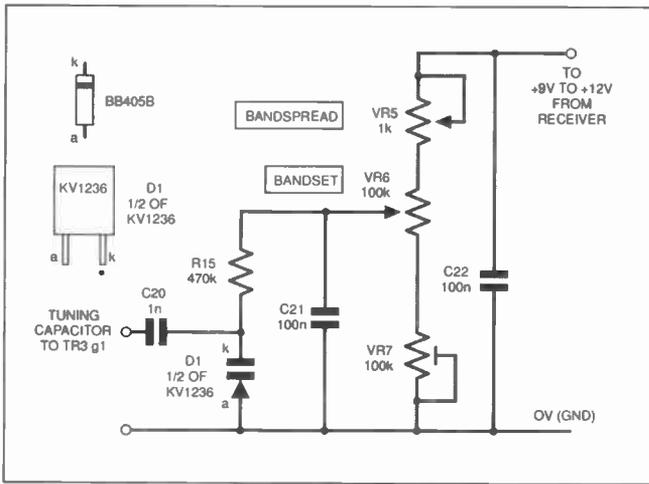

Fig.2. Alternative electronic tuning system. For fine tuning only, delete VR5 and C22, use a BB405B varicap diode and reduce C20 to 50pF.
*C20	1n (1000p) or 50p polystyrene (See Fig.2).